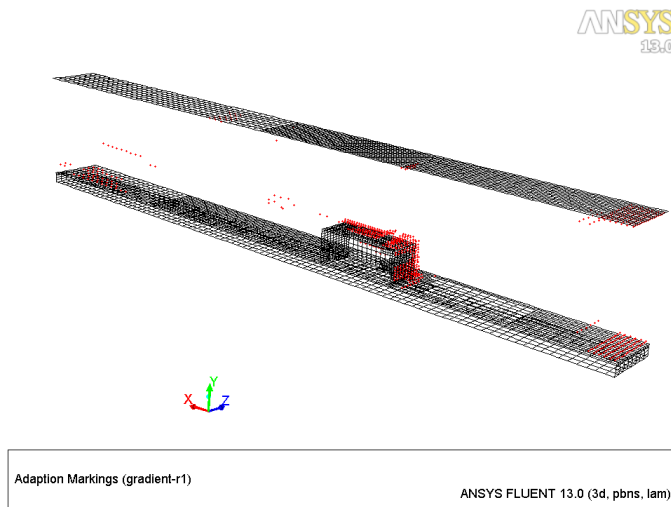

Figure 19: Cells Marked (approx. 675) for Second Velocity Gradient Adaption
- Figure 19 shows the cells marked for the second velocity gradient adaptation.